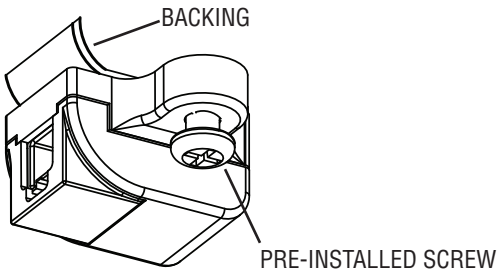

Fig. 4
6. Peel backing off of female end connector and affix to desired location. Surface should be as clean as possible. Drive pre-installed screw into the cabinet surface to secure the connector to the surface. (See Fig. 4)